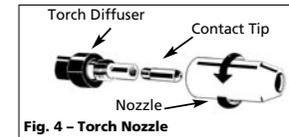

Fig. 4 – Torch Nozzle
- b. Wire matches contact tip in end of gun. (See Fig. 4).
7. Remove nozzle by turning counter-clockwise, then unscrew contact tip from end of welding torch (See Figure 4). Plug welder into a proper power supply receptacle.
9. Carefully slip contact tip over wire and screw tip into torch end. Install nozzle by turning clockwise (See Figure 4). Cut wire off approximately 1/4" from nozzle end.